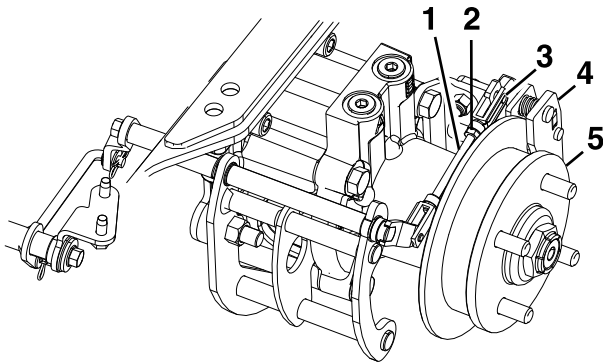

Figure 87
8. Remove the spring clevis pin from the rear linkage and caliper (Figure 87).
12. Tighten the jam nut on the rear linkage (Figure 87).